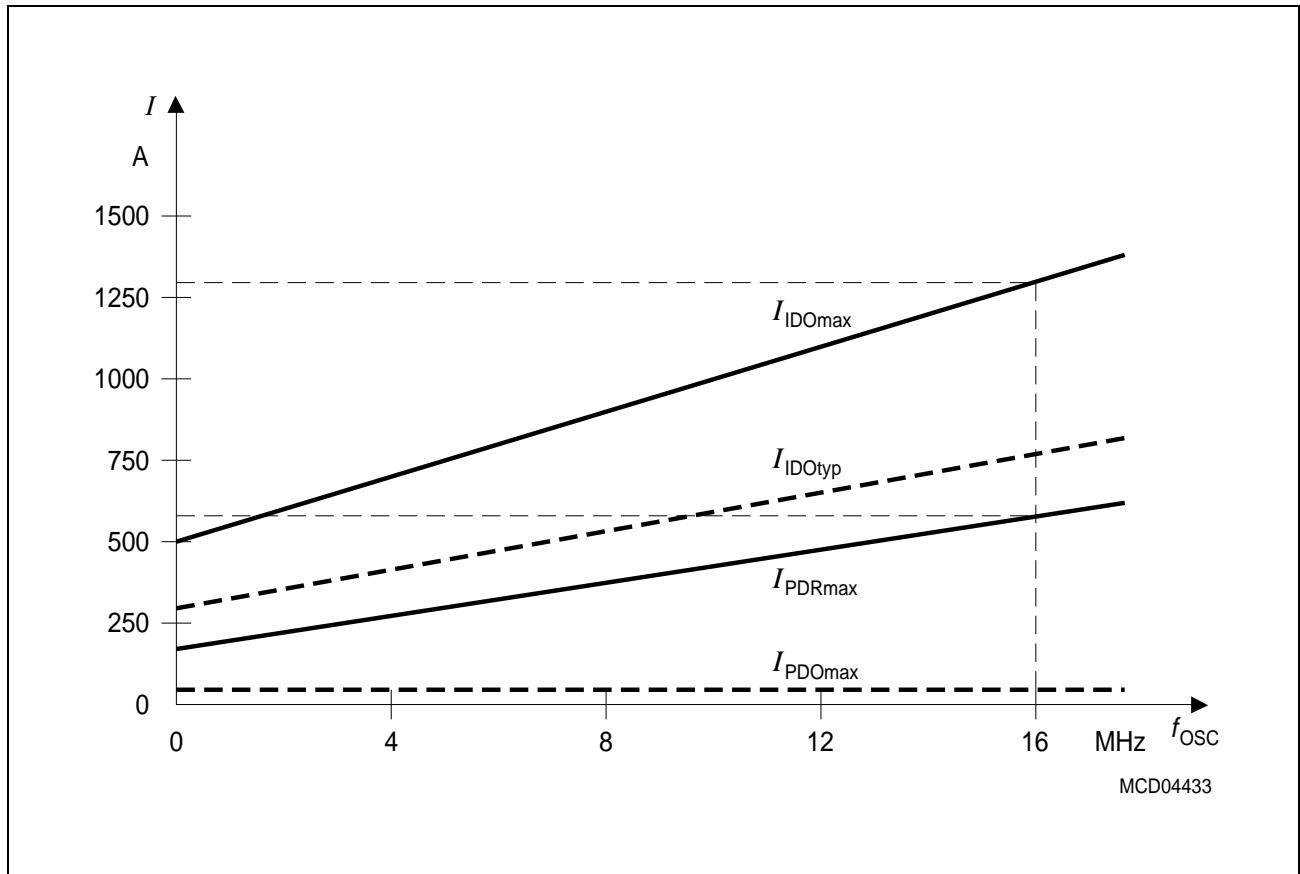

Figure 9 Idle and Power Down Supply Current as a Function of Oscillator Frequency
- 2) This parameter is determined mainly by the current consumed by the oscillator (see Figure 9). This current, however, is influenced by the external oscillator circuitry (crystal, capacitors). The values given refer to a typical circuitry and may change in case of a not optimized external oscillator circuitry.